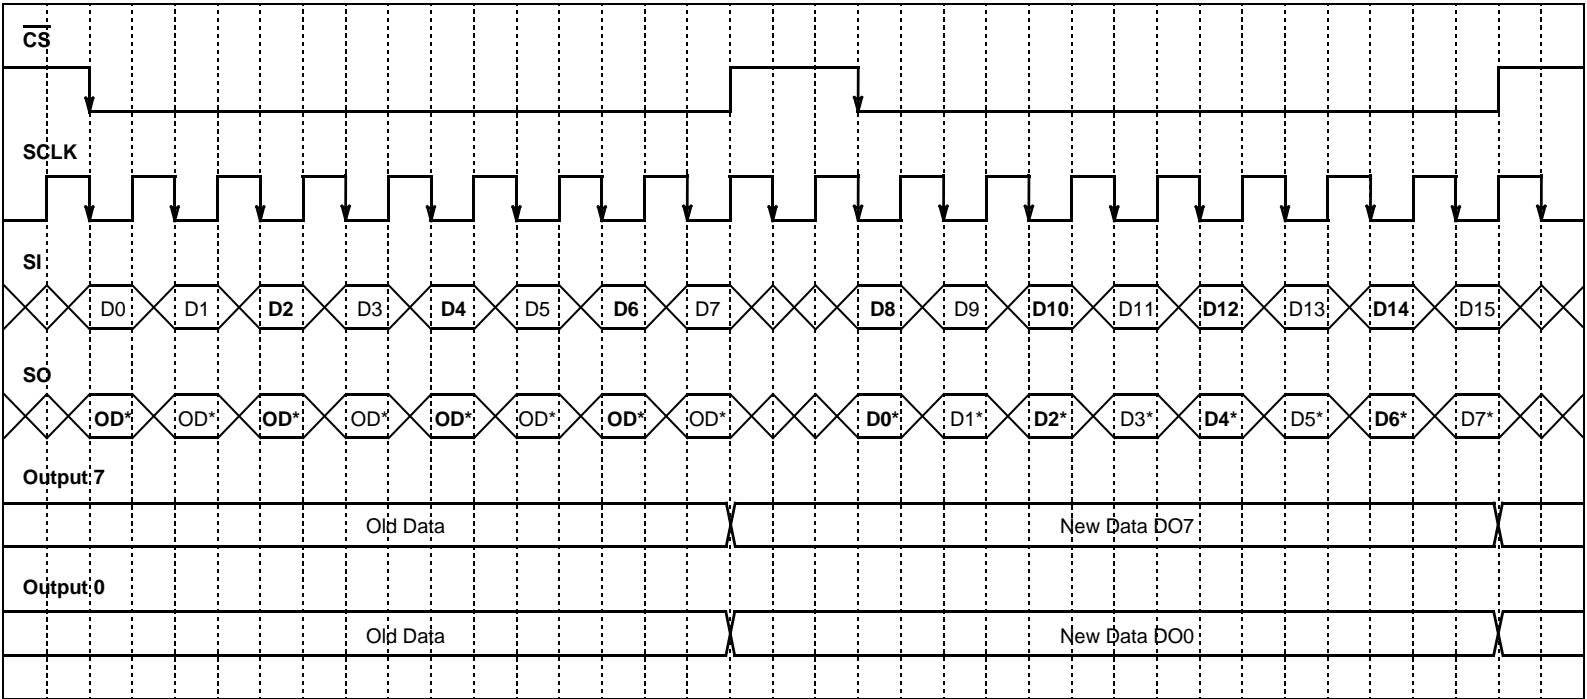

Figure 18. Data Transfer Timing
any transition. For this reason, it is recommended, though not absolutely necessary, the SCLK pin be kept in a low logic state as long as the device is not accessed (\overline{CS} in logic high state). When \overline{CS} is in a logic high state, signals at the SCLK and SI pins are ignored and SO is tri-stated (high-impedance). See the Data Transfer Timing diagram in Figure 18.
To program the eight outputs of the 33298 ON or OFF, an 8-bit serial stream of data is required to be synchronously entered into the SI pin starting with Output 7, followed by Output 6, Output 5, and so on, to Output 0. Referring to Figure 18, the DO bit is the most significant bit (MSB) corresponding to Output 7. For each rise of the SCLK signal, with \overline{CS} held in a logic low state, a data-bit instruction (ON or OFF) is synchronously loaded into the Shift register per the data-bit SI state. The Shift register is full after eight bits of information have been entered. To preserve data integrity,
The serial output (SO) pin is the tri-stateable output from the Shift register. The SO pin remains in a high-impedance state until the \overline{CS} pin goes to a logic low state. The SO data reports the drain status, either high or low relative to the previous command word. The SO pin changes state on the rising edge of SCLK and reads out on the falling edge of SCLK. When an output is OFF and not faulted, the corresponding SO data-bit is a high state. When an output is ON, and there is no fault, the corresponding data-bit on the SO pin will be a low logic state. The SI/SO shifting of data follows a first-in-first-out (FIFO) protocol with both input and output words transferring the MSB first. Referring to Figure 18, the DO bit is the MSB corresponding to Output 7 relative to the previous command word. The SO pin is not affected by the status of the Reset pin.
The MCU can perform a parity check of the fault logic operation by comparing the command 8-bit word to the status 8-bit word. Assume after system reset, the MCU first sends an 8-bit command word to the 33298. This word is called Command Word 1. Each output to be turned ON will have its corresponding data bit low. Refer to the data transfer timing illustration in Figure 18.
As Command Word 1 is being written into the Shift register of the 33298, a status word is being simultaneously written and received by the MCU. However, the word being received by the MCU is the status of the previous write word to the 33298, Status Word 0. If the command word of the MCU is written a second time (Command Word 2 = Command Word 1), the word received by the MCU, Status Word 2, is the status of Command Word 1. The timing diagram illustrated in Figure 18 depicts this operation. Status Word 2 is then compared with Command Word 1. The MCU will Exclusive OR Status Word 2 with Command Word 1 to determine if the two words are identical. If the two words are identical, faults do not exist. The timing between the two write words must be greater than 100 μ s to receive proper drain status. The system data bus integrity may be tested by writing two like words to the 33298 within a few microseconds of each other.